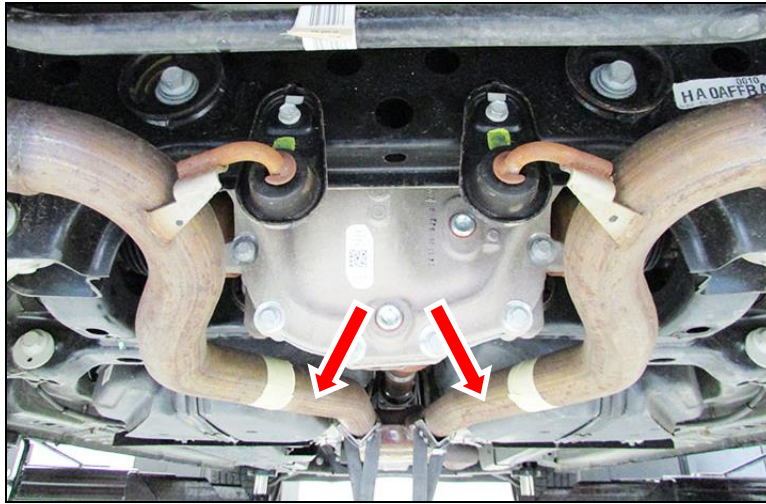

Figure 1
3. From under the vehicle, refer to **Figure 1** and locate this area of the OE mid pipe. This section of the OE mid pipe is about to the end of the rear of the gas tank.